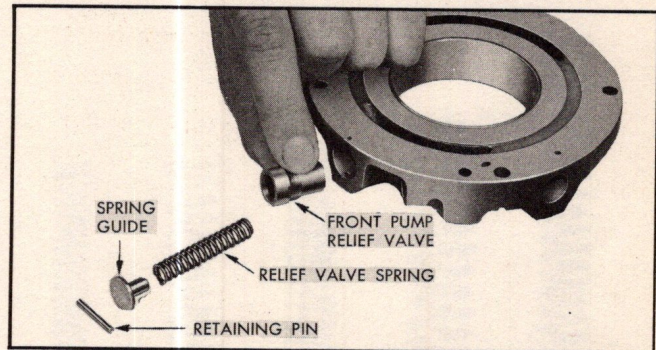

Fig. 21 Removing Relief Valve, Spring and Guide
3. Remove front pump relief valve guide from the body by pressing on the guide with a blunt screwdriver and slipping the pin from the body. Hold the guide with finger pressure to prevent it from popping out too fast. Remove guide, spring and valve (Fig. 21). (The valve can be removed with snap ring pliers.)